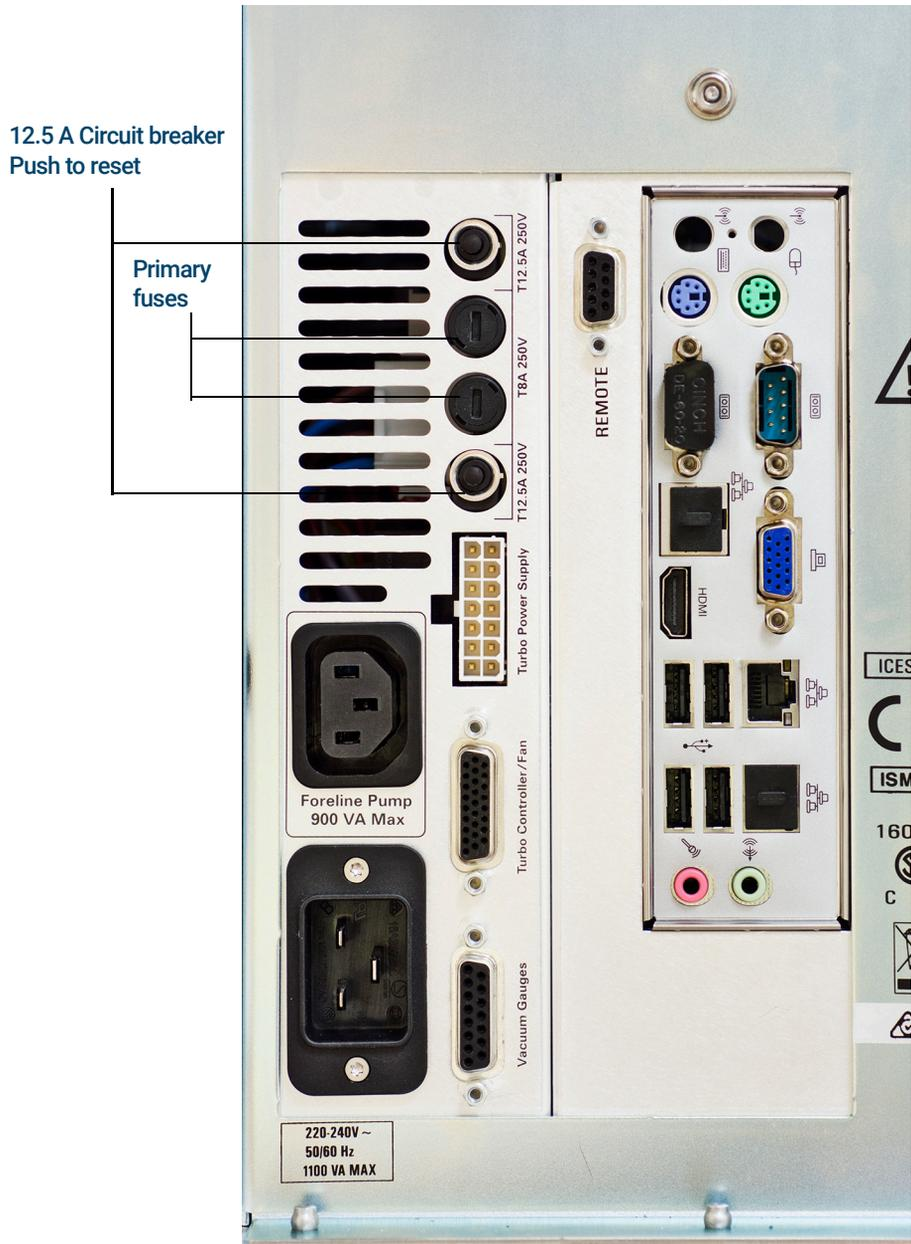

Figure 21. Replacing the fuses
- 1 With the MS off and unplugged, locate and reset (push in) the circuit breakers. (See **Figure 21** on page 124.)
- 4 Locate the fuse holders on the back panel. (See **Figure 21** on page 124.) Use a flat-blade screwdriver to turn one of the fuse holders counterclockwise until it is released. The fuse holders are spring loaded.